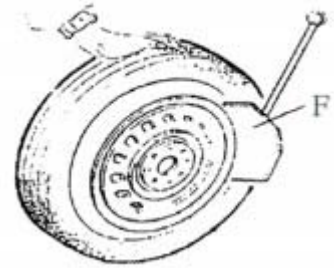

Fig.5
Ensure to exhaust the air in the tyre completely, place the tyre against the rubber buffer (S). Bring the paddle (F) against the bead about 10mm from the edge of the rim shown as **Fig 5**. Tread Bead breaker Pedal (U) to push paddle into tyre. Repeat the above operations on different positions around the tyre and both sides of tyre until tyre bead is released completely.